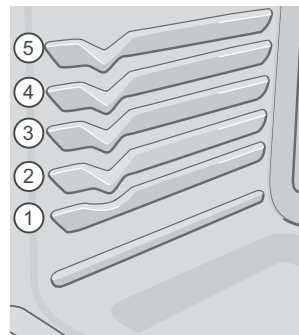

Figure 3: Rack positions
- For best results when baking cakes using two oven racks, place racks in positions 2 and 4 (See Figure 3).